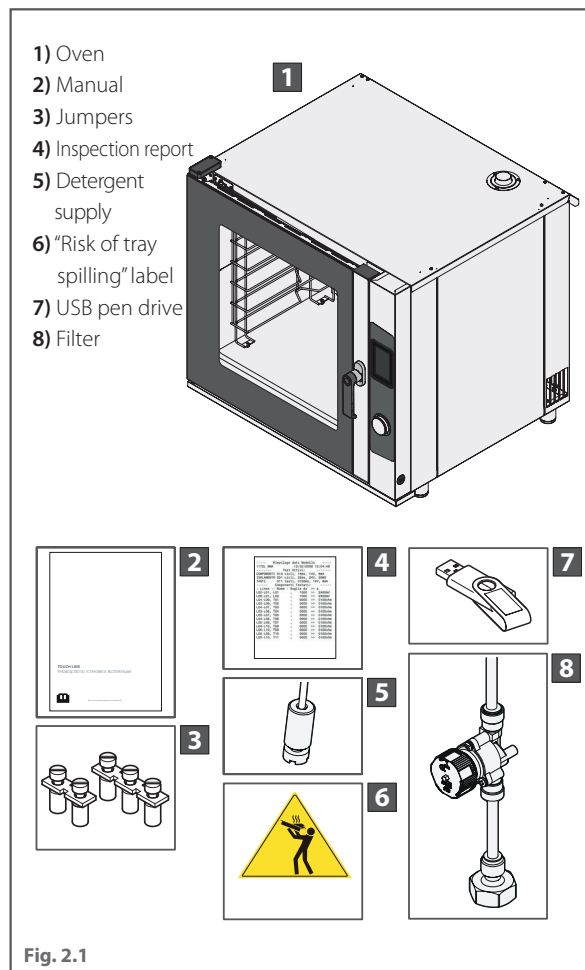

Fig. 2.1
► Fig. 2.1
If necessary to do so, you must apply the “risk of burns” sticker  supplied with the appliance at the height shown (see ► **Fig. 2.1**) page 5.